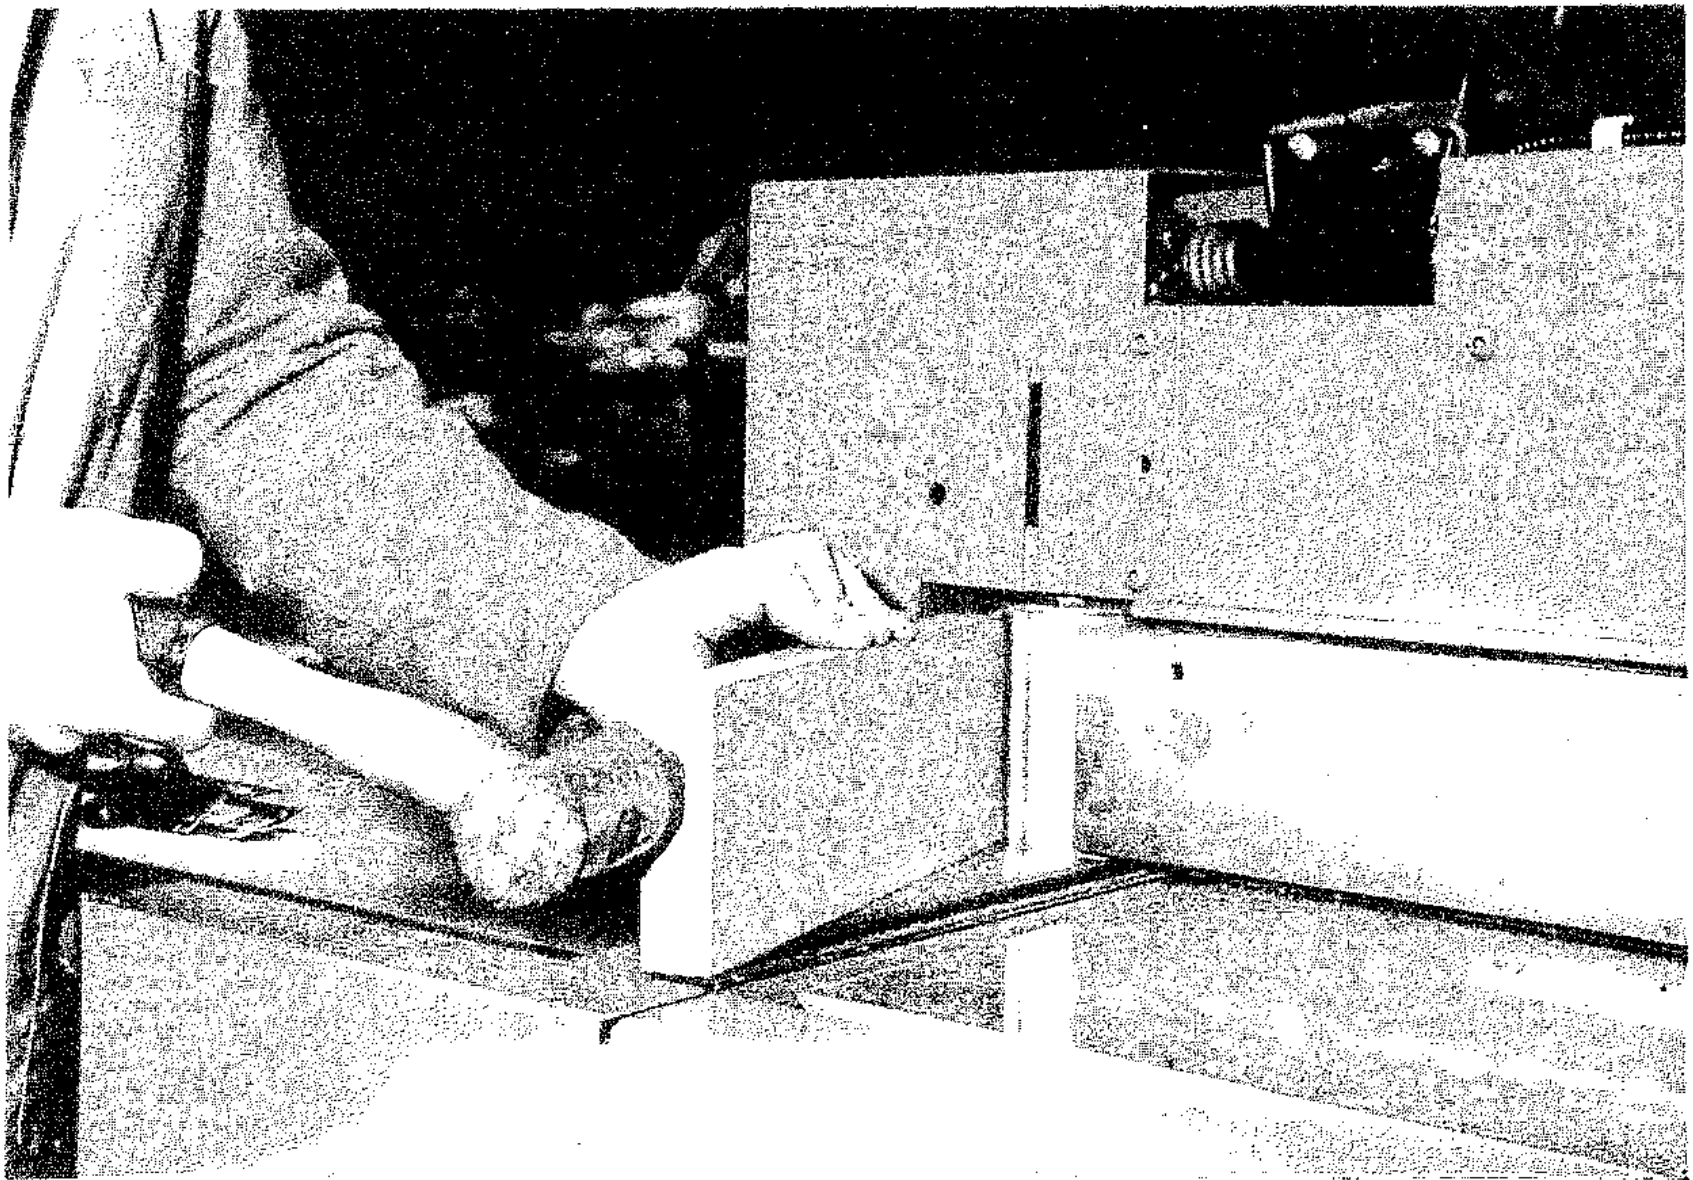

FIG.41
- d) Using a wood block and hammer, remove knife by tapping wedge as shown in FIG.41.